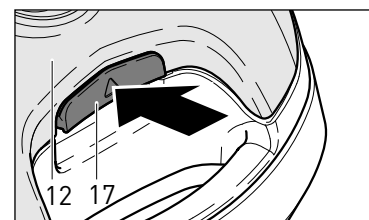
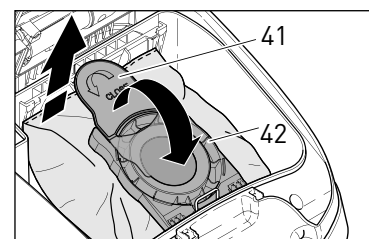
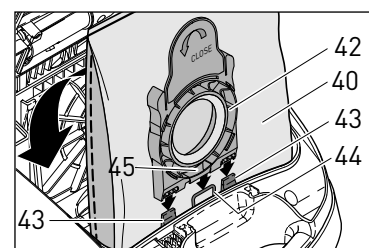
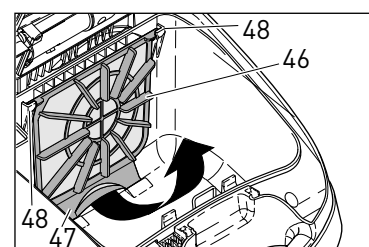

Figure 20
Figure 21
Figure 22
Figure 23
## Changing the Filter Bag - Figures 20, 21 & 22
To change the filter bag (40), lift the filter bag release catch (17, figure 20) then lift open the filter bag cover (12). Seal the used filter bag with the sealing cap (41). Tilt the green sealing plate collar up (42, figure 21) and lift the bag out. Slide the front of the sealing plate (42) of a new bag vertically into the bag holder (43, figure 22). Line up the sealing plate so that the U-shaped metal spring (44) is positioned in the slot (44) of the collar and tilt it back into place. Close the cover, making sure it snaps shut completely. The cover will not close if the bag is inserted improperly. Do not re-use the filter bags. **Note:** The nature of the contents of the filter bag will affect the point at which it needs changing. Fine dust may require an earlier change even though the bag is not full. Fluff or hair allows air to pass through easily, so the filter bag may overfill before the “bag full” indicator turns orange.
## Changing the Pre-motor Filter - Figure 23
The pre-motor filter (46) needs to be changed when it becomes extremely dirty or clogged with dust, or after approximately 10 to 20 filter bags have been used. To change the pre-motor filter, lift the filter bag release catch (17, figure 20), lift open the filter bag cover (12) and remove the filter bag. Grasp the tab at the bottom of the filter (47, figure 23) and pull the filter out and up. When the filter is horizontal, lift it out of the holder (48). Insert the new filter into the holder horizontally (48) then swing it downward until the tab (47) locks into place. Replace the filter bag and the filter bag cover.
3. Pre-motor filter not properly inserted.	3. Remove the filter bag and make sure the pre-motor filter is seated firmly in place (see pg. 13, figure 23).